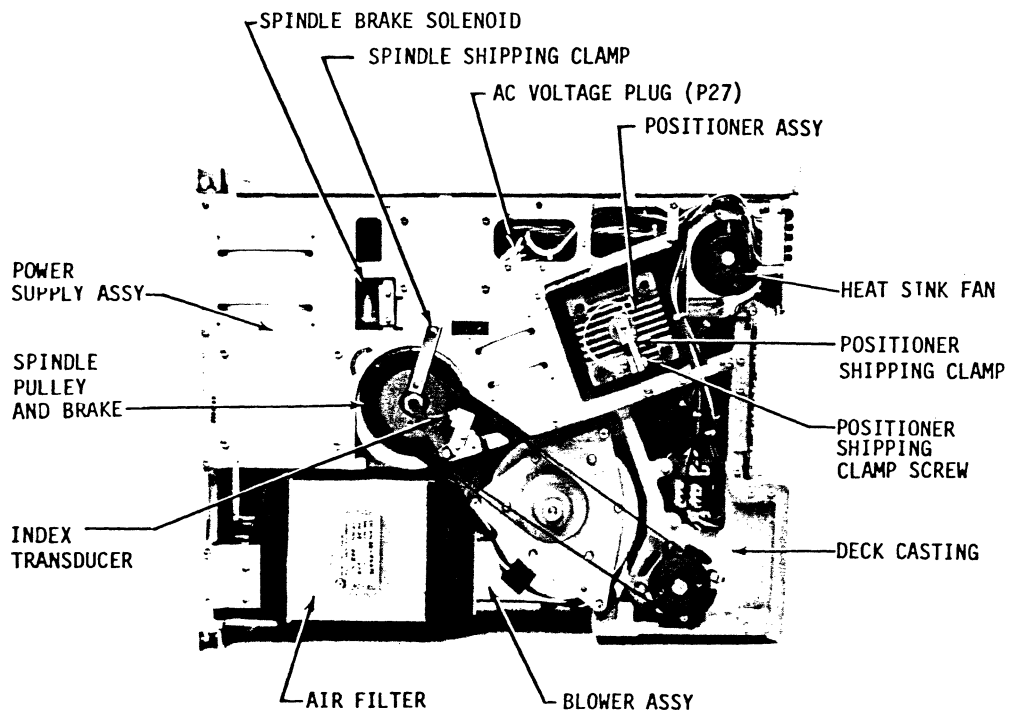

Figure 5-1
The strength of the permanent magnet is such that the disc drive can be removed from its cabinet and placed in its service position (Fig. 5-1) without danger of the heads leaving the "landing zone" providing the machine is not allowed to experience shock or vibration.
It is therefore recommended that for any maintenance operation requiring removal of the machine from its rack or enclosure that the positioner shipping clamp and spindle shipping clamp first be fastened (Fig. 5-1).
- b) The power supply input taps are accessible from bottom of drive. See Fig. 5-1 (A/C Voltage Plug). These taps can be selected to match as nearly as possible the line voltage. Figure 5-2 shows how to select the taps for the line voltage in a given application.
- c) Disconnect AC voltage plug (P27) and power amplifier connector (P15) where shown in Fig. 5-1.